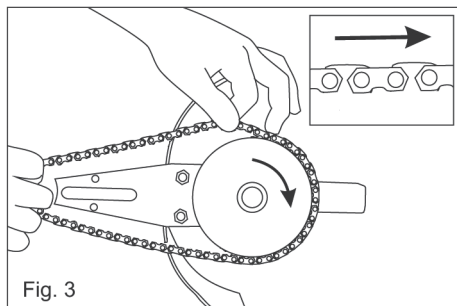

Fig. 3
4. Loop the supplied Terrasaw™ drive chain over the large sprocket (Fig. 3).